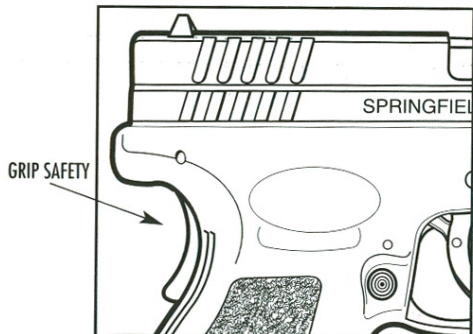
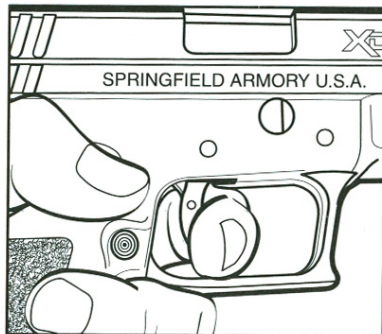

Figure 15-1
Figure 15-2
2. **Grip Safety** - The grip safety is located at the top rear of the pistol grip. (Figure 15-1.) The grip safety must be depressed to be deactivated (Figure 15-2.) Until the grip safety is depressed and deactivated, the gun will not fire even if the trigger is pulled. Grip safety must also be depressed to allow slide to be pulled to the rear. The grip safety is designed to be deactivated when the gun is properly gripped to fire. To fire the gun you must properly hold the gun and depress the grip safety